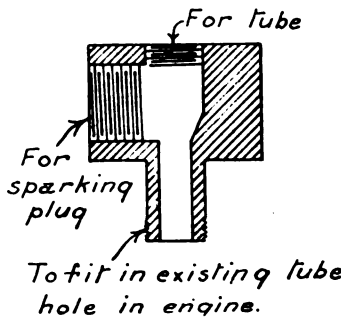

FIG. 1.
[19,930] **Gas Engine Electric Ignition.** J. C. S. D. (Rugby) writes: I have a small gas engine ($1\frac{1}{4}$ -in. by 3-in. stroke), fitted with tube ignition. I rather wish to fit electric ignition, or, if possible, have both kinds. (1) Do you think that the idea in Fig. 1 would act, or would exhaust gases remain in the pocket? (2) Is it possible to obtain a small spark plug to fit into ordinary ignition tube hole? (3) Would an ordinary 3-16ths-in. spark coil be sufficient for ignition purposes? (4) Would a spring rubbing on the same cam as exhaust valve is opened by be suitable as a wipe contact? (5) Would a piece of clock spring be suitable for the spring? (See Fig. 2.)
(1) We are afraid there would be trouble with misfiring, owing to the burnt gases hanging about in the pocket. (2) Most spark plugs are slightly larger than this, but you could consult some maker's catalogue or write to some of our advertisers asking for size of the smallest spark plug they make. (3) We should recommend a coil capable of giving at least $\frac{1}{4}$ -in. spark in air. When a